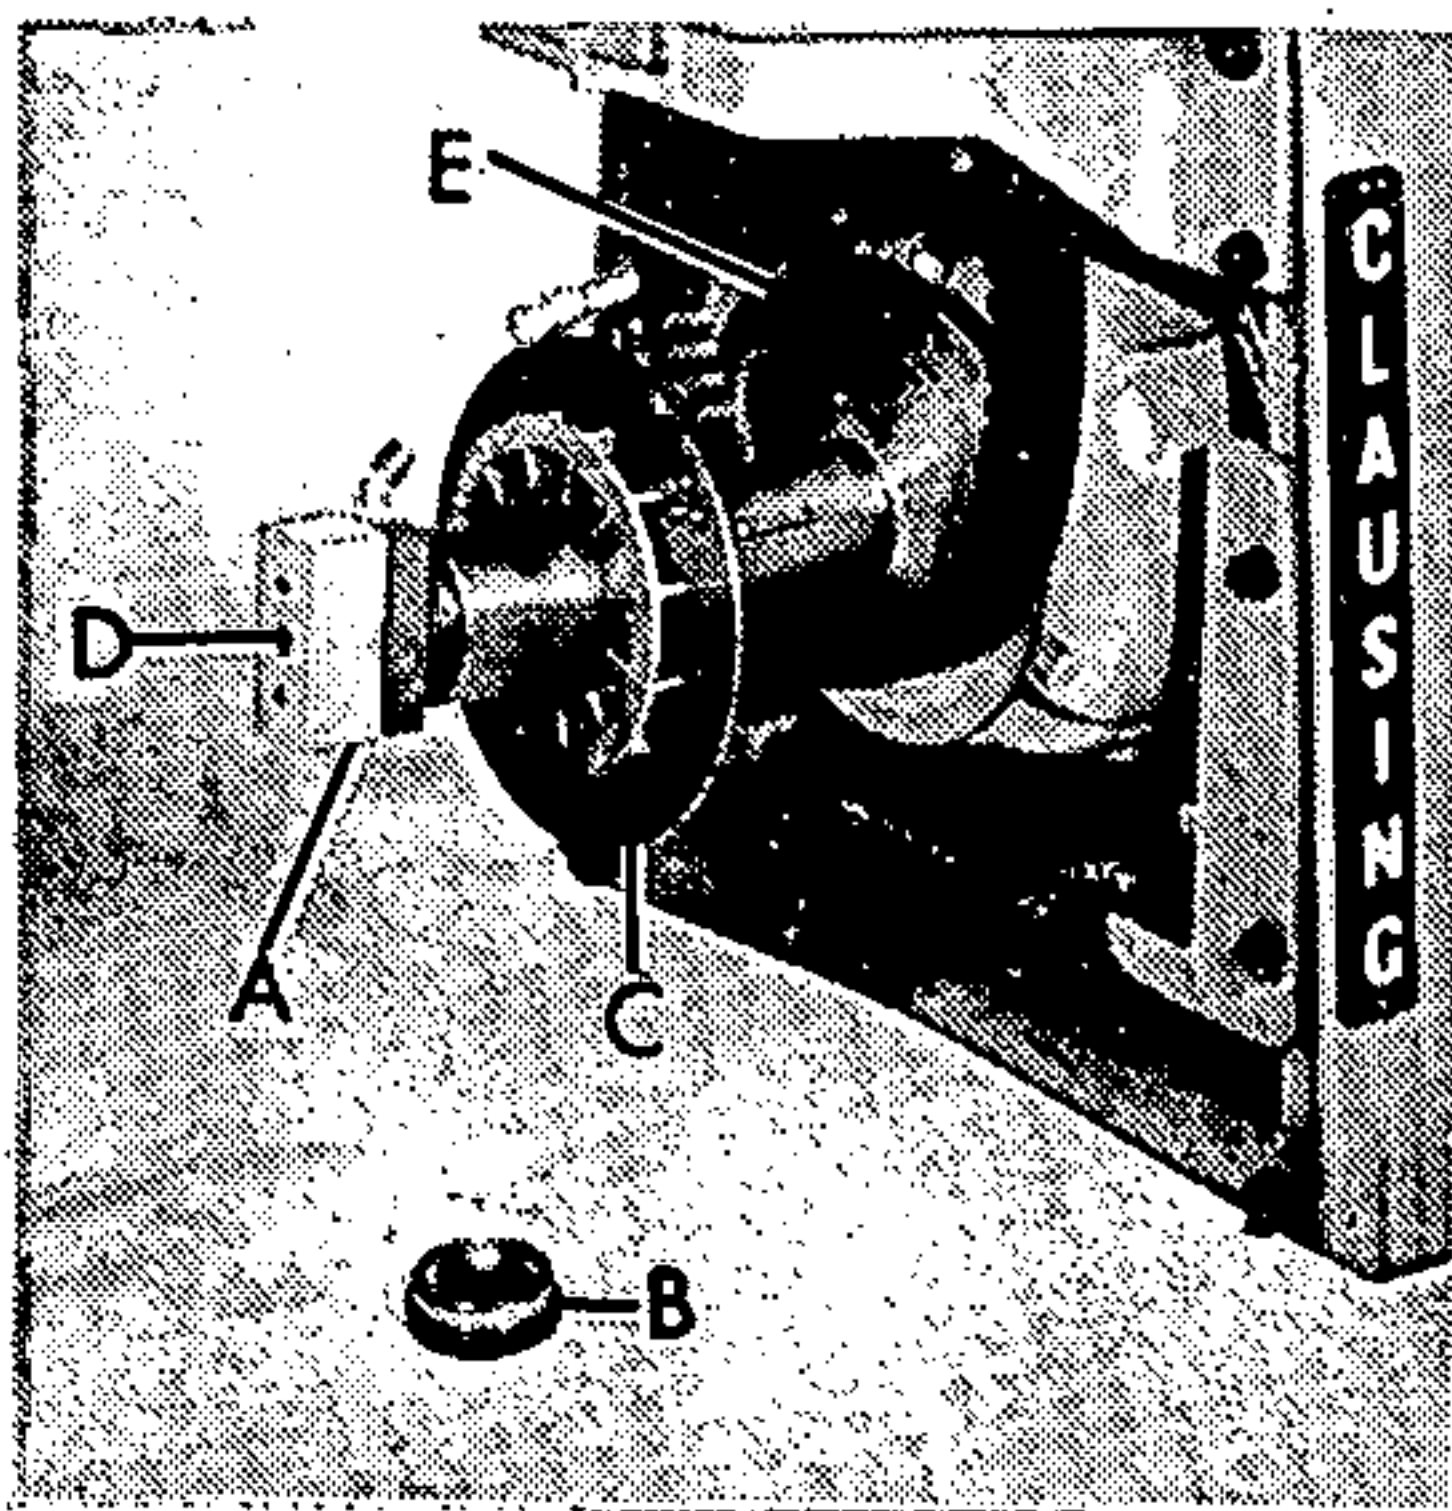

FIGURE 5
3. Press new hydraulic cylinder (A) assembled (less outer bearing assembly B) into outer half of variable pulley (C).
- Slide outer half of variable pulley (C, fig. 5) with hydraulic cylinder assembly (A) onto shaft (D) and inner half of variable pulley (E) being sure key and key way in pulley line up.
- Slide outer bearing assembly, consisting of bearing holder, outer bearing, bearing spacer and locknut (B, fig. 5) onto shaft (D).